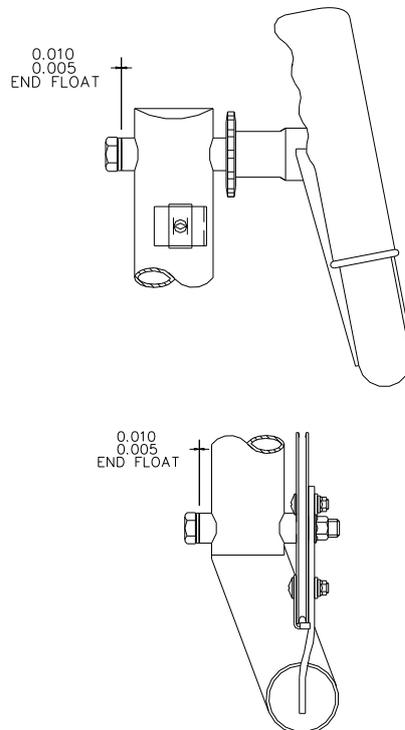

Figure 5
6. The bronze shafts have also been machined slightly over length to account for manufacturing variations in the length of control column bushes between individual aircraft. The required end float of the completed assemblies is 0.005" - 0.010". Refer to Figure 5. Material can be removed from the bronze shaft if the clearance exceeds 0.010", or by grinding back the control column bush if the clearance is less than the 0.005" minimum.